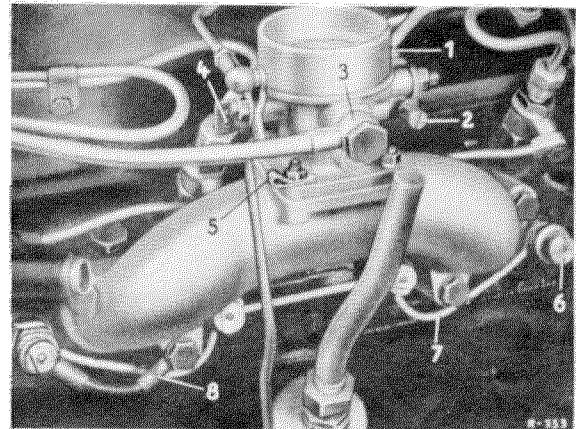

Figure 00-11/1
1. On vehicles with bowden cable idling control, turn the knob at the instrument panel fully clockwise. The throttle lever (4) should not touch the setting ring of the bowden cable (see Fig. 00-11/1), loosen the setting ring if necessary.
2. Then adjust the idling speed by tightening or loosening the idling stop screw (2) (Idling Speed see Job No. 00-0).